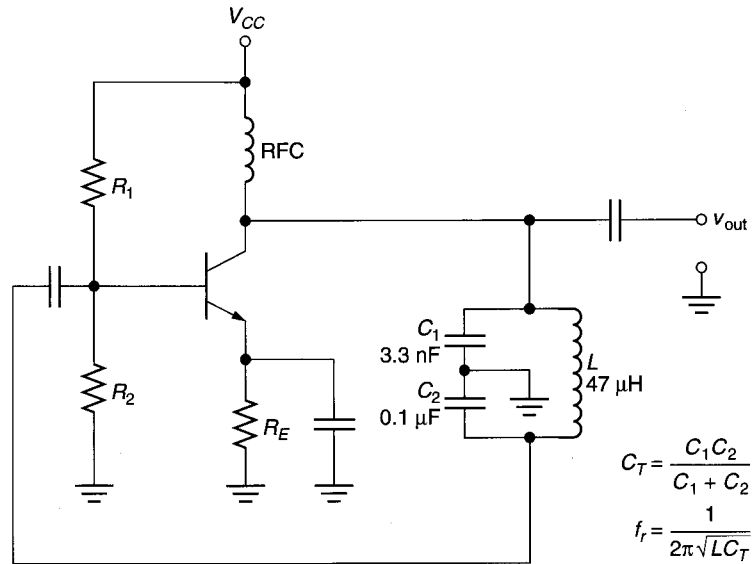

FIGURE 18.13
Determine the value of  $\alpha_v$  for the circuit shown in Figure 18.13 using both equations (18.3) and (18.4).
A Colpitts oscillator like the one in Figure 18.13 has the following values:  $C_1 = 10 \text{ nF}$ ,  $C_2 = 1.5 \text{ }\mu\text{F}$ , and  $L = 10 \text{ }\mu\text{H}$ . Calculate the value of  $\alpha_v$  for the circuit using both equations (18.3) and (18.4).
Also, it is acceptable to use capacitive coupling for the Colpitts oscillator, as shown in Figure 18.13, provided that the following relationship is fulfilled:
6. Identify the following statement as true or false and explain your reasoning: *The higher the  $Q$  of the feedback network in Figure 18.13, the more stable the oscillator output frequency.*